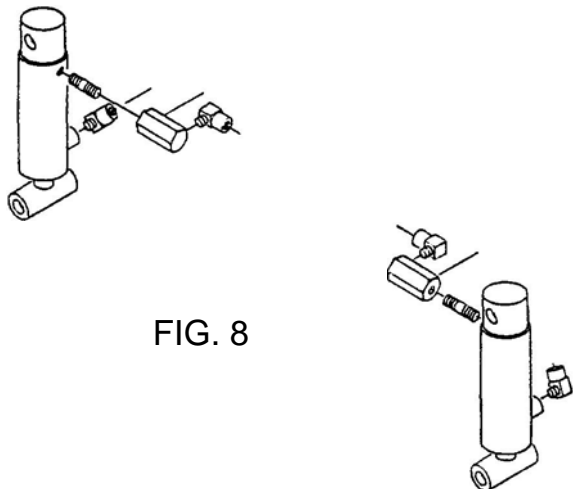

FIG. 8
- (1) Assemble a $1/4 \times 90^\circ$ steel st. elbow into the rod end lower ports of the R.H. and L.H. tilt cylinders. Use thread sealant on the threads and position the elbows as shown in FIG. 8.
- (2) Assemble a $1/4 \times 2 \ 1/2$ pipe nipple, hex fitting and a $1/4 \times 90^\circ$ steel st. elbow to the barrel end upper ports of the R.H. and L.H. tilt cylinders. Use thread sealant on the threads and position the fittings as shown in FIG. 8.